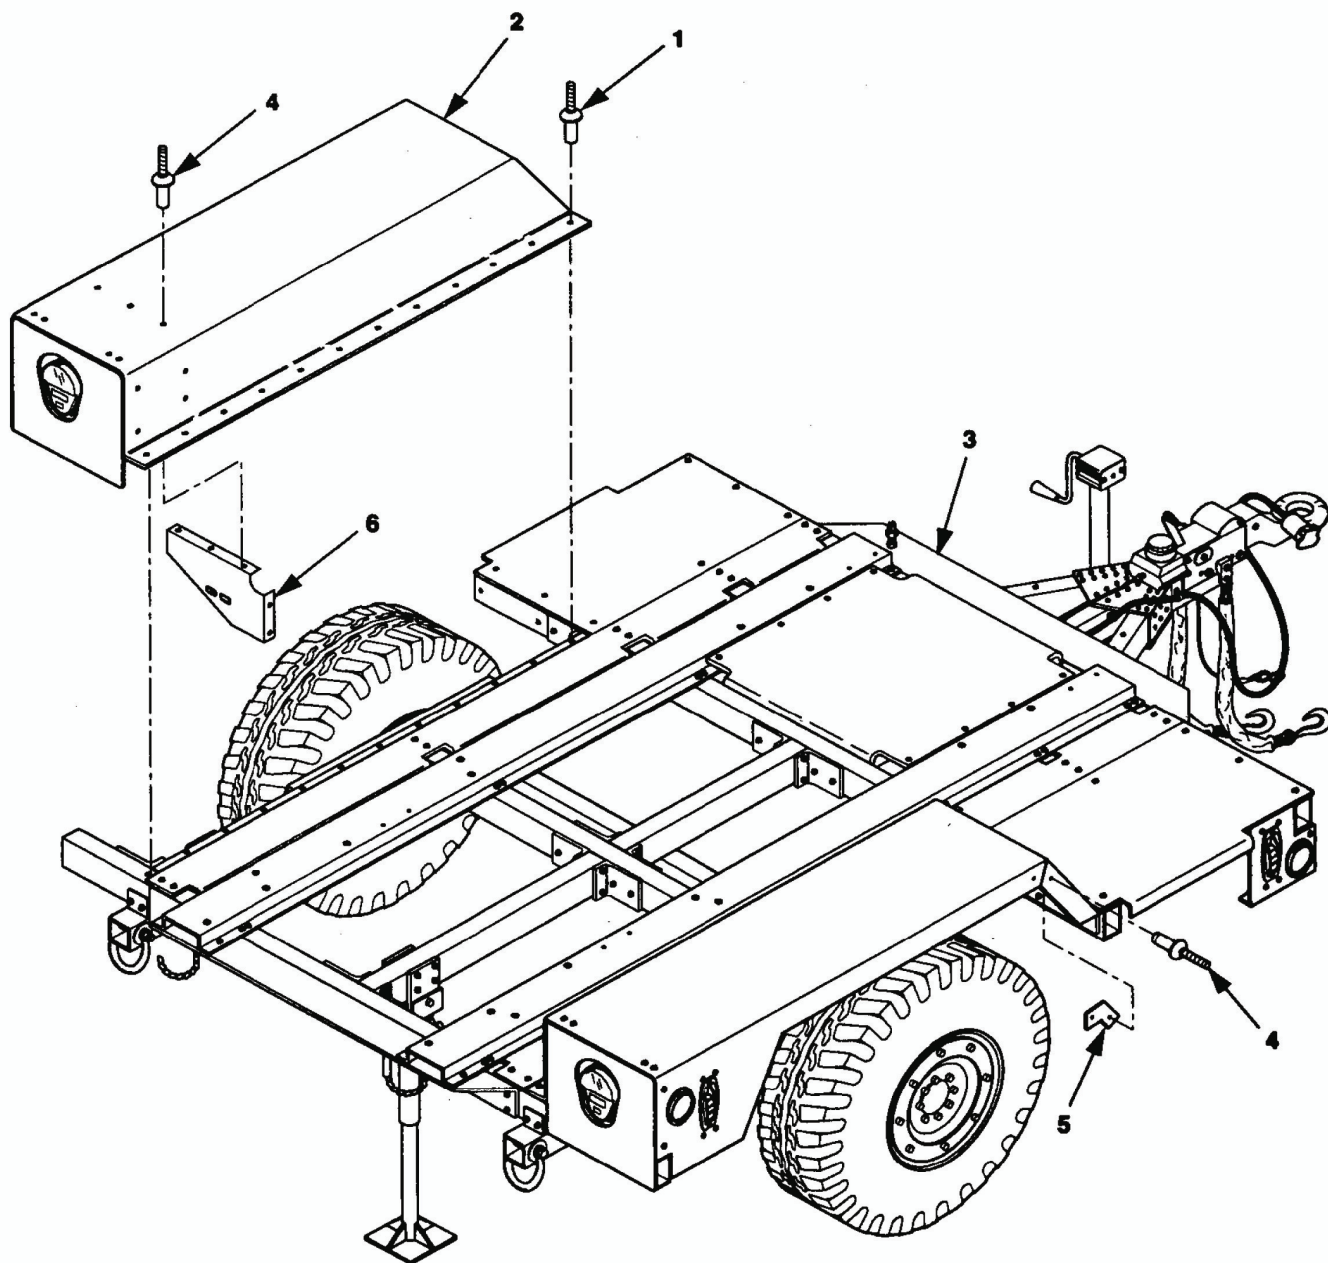

Figure 5-19. PU-801A and AN/MJQ-48A Fender Replacement.
- (1) Data plate (paragraph 4-29)
- (2) Fire extinguisher and bracket (paragraph 4-28)
- (3) Side marker light and reflector (TM 9-2330-392-14&P)
- b. Remove rivets (1, figure 5-19) and fender (2) from trailer chassis (3).
Repair of fenders consists of welding, straightening, and spot painting as required, and replacement of rivets (4, figure 5-19), fender angle support (5), and tail light bracket (6).
a. Place fender (2, figure 5-19) on trailer chassis (3), and secure with rivets (1).
- (1) Data plate (paragraph 4-22).
- (2) Fire extinguisher and bracket (paragraph 4-20)
- (3) Side marker light (TM 9-2330-392-14&P)